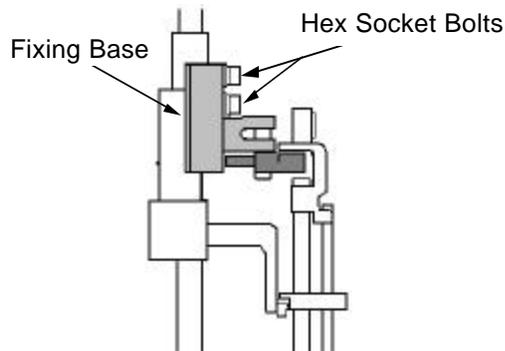

Figure 3
- Using a 3mm hex key (allen wrench), loosen top and bottom hex socket bolts on Needle Bar Driver Fixing Base. See figure 3